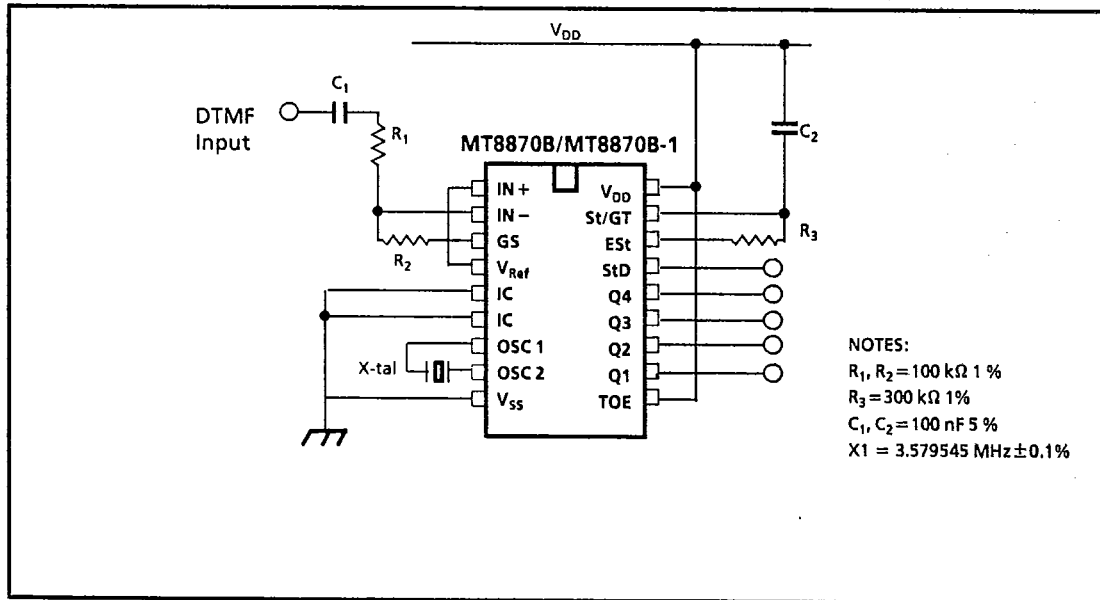
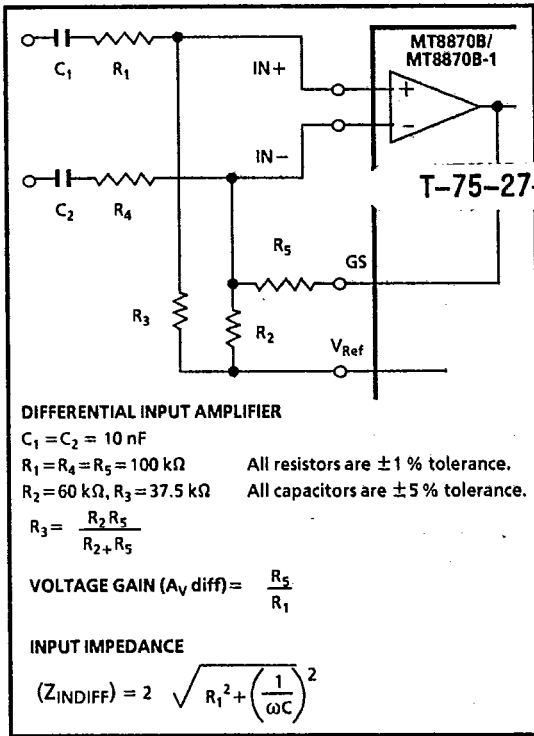

Figure 2 - Single-Ended Input Configuration
Figure 7- Differential Input Configuration
¹ $V_{DD} = 5V, V_{SS} = 0, T_A = 25^\circ C$ and $f_c = 3.579545$ MHz using test circuit shown in Figure 2.
* V_{DD} = 5 V, V_{SS} = 0, T_A = 25° C and f_C = 3.579545 MHz using test circuit shown in Figure 2.
[†] V_{DD} = 5.0V, V_{SS} = 0V, T_A = 25°C and f_c = 3.579545 MHz, using test circuit shown in Figure 2.
The input arrangement of the MT8870B/MT8870B-1 provides a differential-input operational amplifier as well as a bias source (V_{Ref}) which is used to bias the inputs at mid-rail. Provision is made for connection of a feedback resistor to the op-amp output (G5) for adjustment of gain. In a single-ended configuration, the input pins are connected as shown in Figure 2 with the op-amp connected for unity gain and V_{Ref} biasing the input at $\frac{1}{2}V_{DD}$. Figure 7 shows the differential configuration, which permits the adjustment of gain with the feedback resistor R_5 .